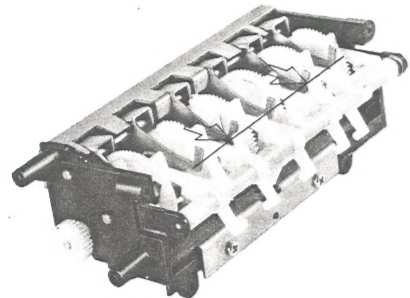

Fig. 19
- 4) Confirm that the assembly will not move even if the lever (gear stopper) is pressed. (See figure 19)